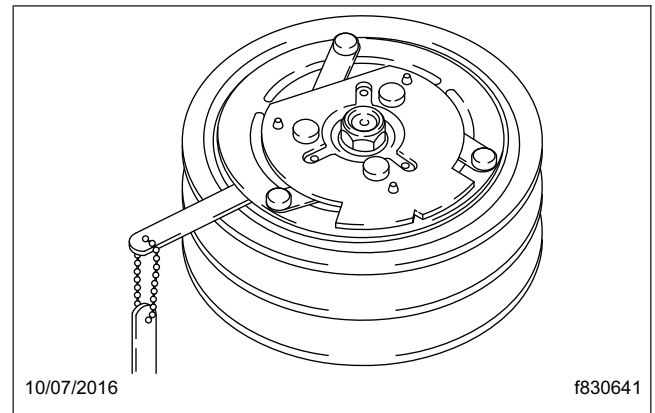

Fig. 1, Drive Plate Clearance Inspection
4. On a Sanden A/C compressor, use a feeler gauge to check that the drive plate clutch clearance is 0.016 to 0.030 inch (0.4 to 0.8 mm). See **Fig. 1**. If the drive plate clutch requires adjust-